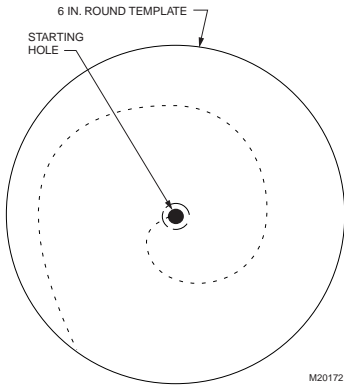

Fig. 5. Cutting bypass opening.
10. Carefully cut the opening for a 6 in.(155 mm) starter collar. See Fig. 5. Use a drill, punch or awl to start the cut in the middle of the circle. Cut in an outward spiral to assist in controlling the cut.